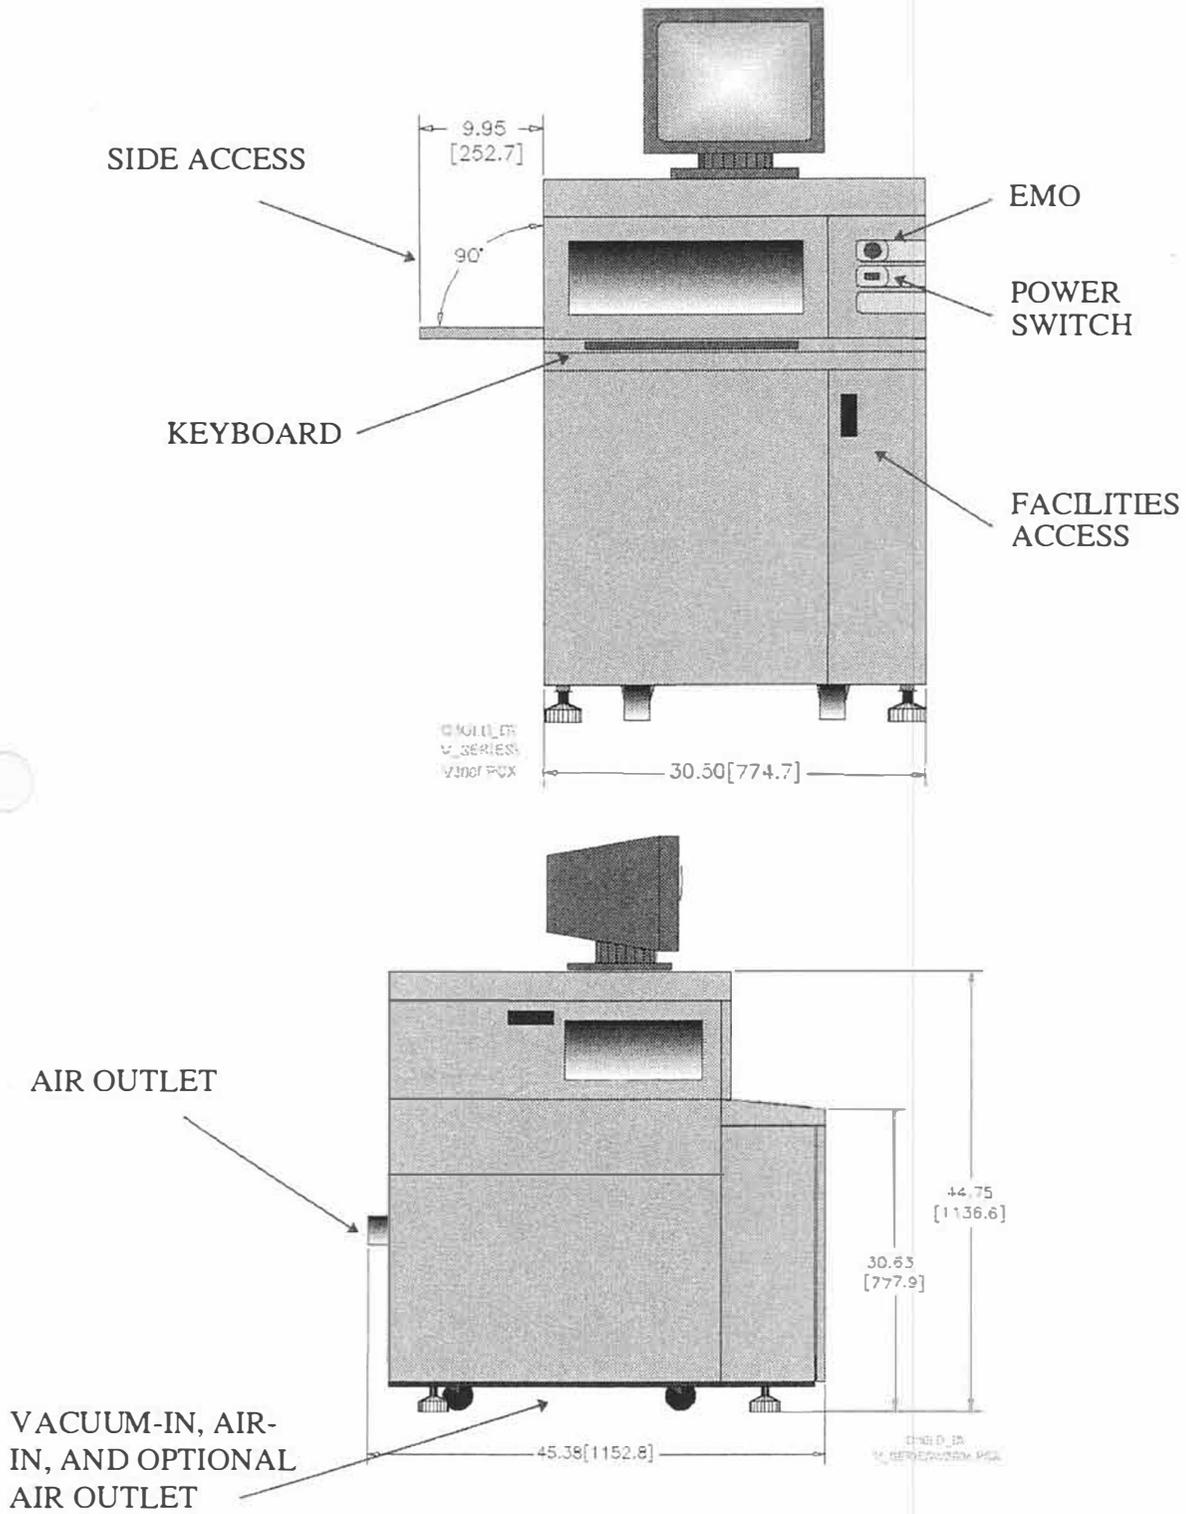

Figure 1-2. Physical Characteristics
3. The software will boot up and the DEKTAK V 200-Si sign on screen will be displayed on the monitor (see Figure 1-2).